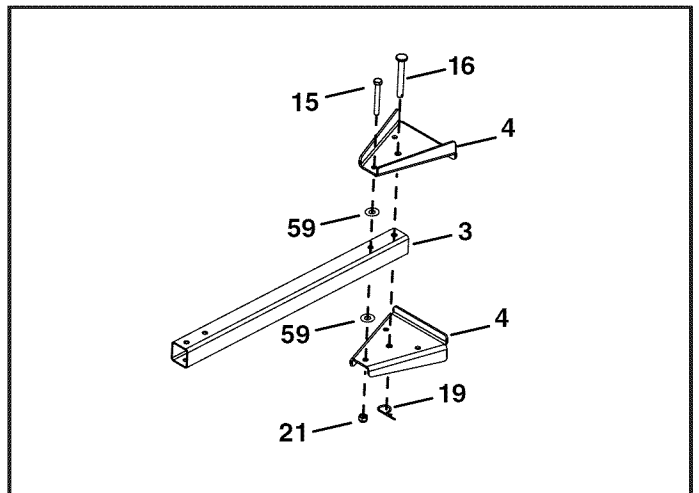

FIGURE 4
STEP 4: (SEE FIGURE 4)
- Attach the drawbar brackets (4) to the drawbar (3) using one 5/16" x 2-1/2" hex bolt (15), two washers (59), and one 5/16" nylock nut (21). Make the nut finger tight only.
- Insert the 3/8" x 3" pin (16) into the brackets and drawbar and install a small hairpin cotter (19).